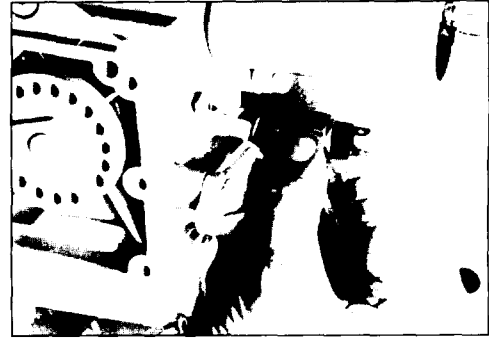

FIG. 45
- Insert the switch to about the same depth as the idle screw was turned (see Fig. 45).